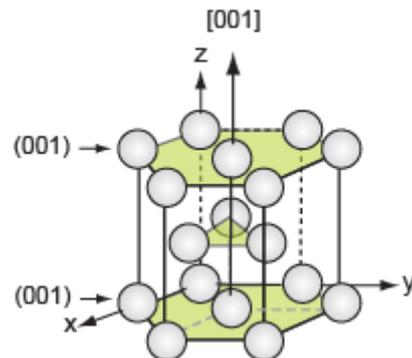

Figure C45.
**E33.** (a) The cleavage plane is shaded on Figure C45.
(c) The (001) planes and the [001] direction are shown on Figure C45.